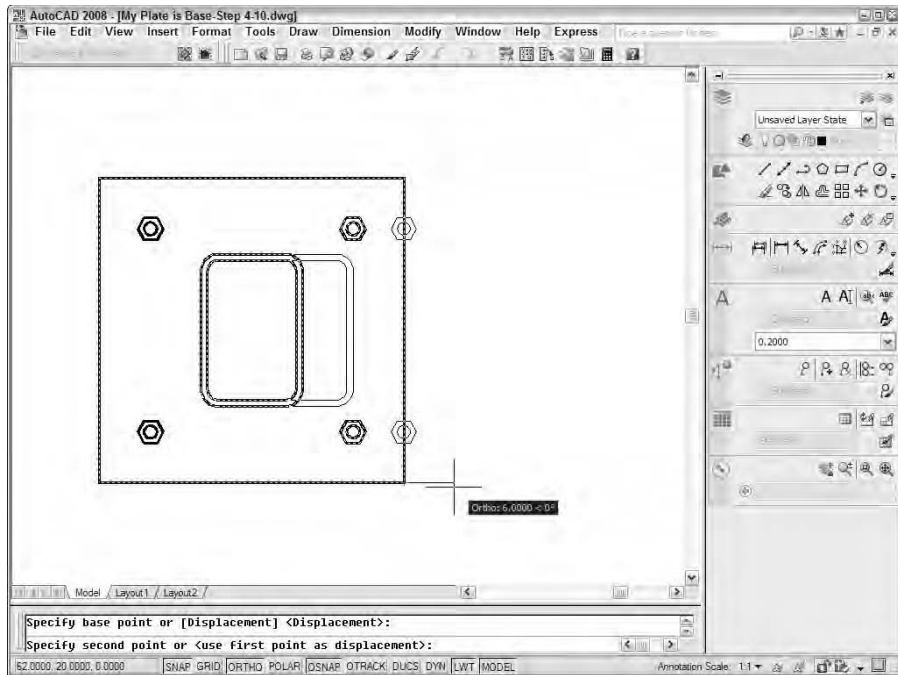

Figure 3-14:
8. Move the crosshairs to the right until the dynamic input tooltip shows a displacement of 6 [150] units to the right and then click in the drawing space (see Figure 3-14).
AutoCAD *stretches* the column and plate by the distance that you indicate and *moves* the anchor bolts that were completely inside the crossing window rectangle, as shown in Figure 3-14.